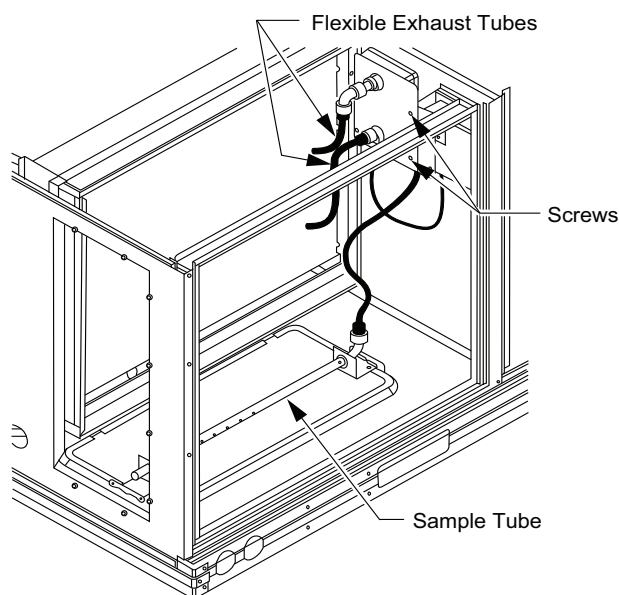

Fig. 45 — Return Air Smoke Detector Shipping Position
1. Unscrew the two screws holding the return air sensor detector plate. See Fig. 45. Save the screws.